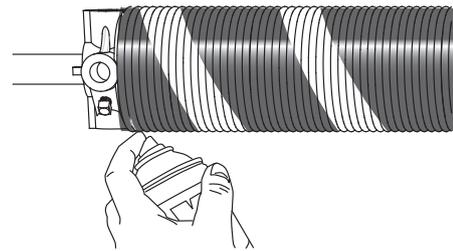

Fig: 3.8.2
- Oil the springs full length to prevent noise and reduce friction. TAL 5 or similar oil rich lubricant in a pressure spray can is acceptable. Fig 3.8.2